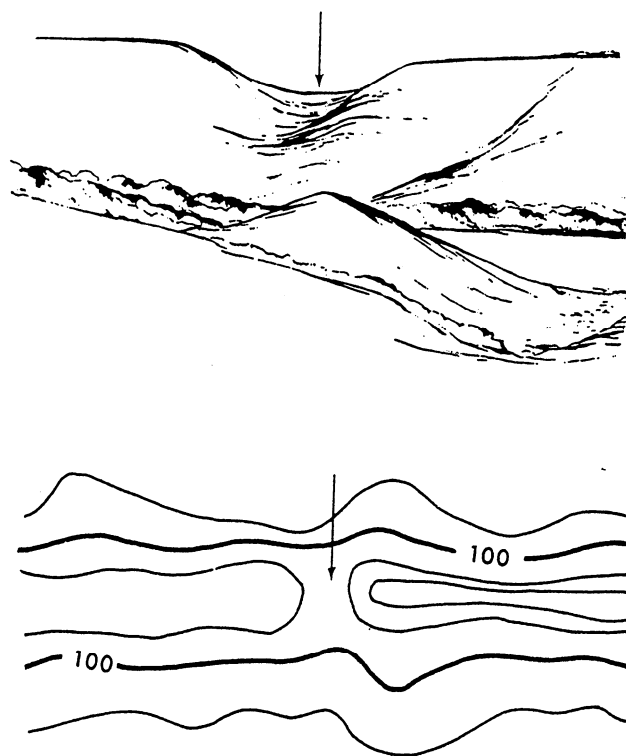

Figure 5-14.—Saddle.
6. SADDLE. A saddle is a dip or low point along the crest of a ridge. A saddle is not necessarily the lower ground between two hilltops; it may be simply a dip or break along an otherwise level ridge crest (fig. 5-14).